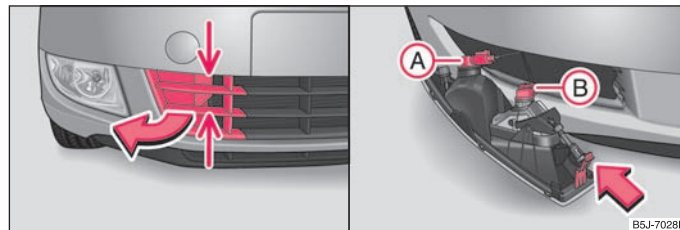

Fig. 171 Front bumper: Protective grille / removing the fog light
- Grasp the grille at the points marked with the arrows ⇒ fig. 171 - left and take it out. ►
- Guide your hand into the opening in which the grille was located and press the spring bolt ⇒ page 202, fig. 171 - right.
- Turn the socket (A) with the bulb for daylight driving light or the socket (B) with the bulb of the fog light to the left up to stop and take it out.